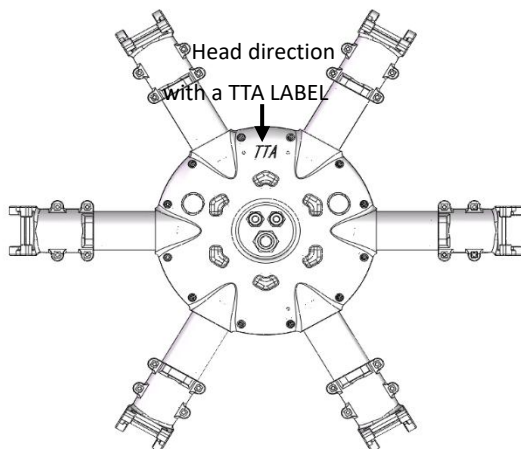

Figure 1
- 2) Put the fuselage bottom upward as the Figure1.